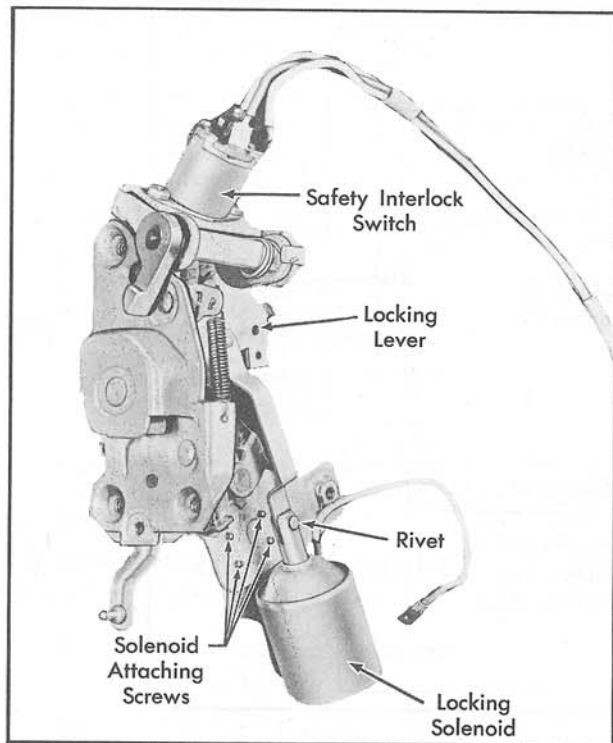

Fig. 17-29 Rear Door Lock Assembly
2. Carefully remove rivet, Fig. 17-29, securing lock link to solenoid plunger.
3. Remove solenoid attaching screws and remove solenoid from lock assembly, Fig. 17-29.
IMPORTANT: Before installing door lock assembly into door, check operation of locking solenoid. When solenoid is not energized, the lock should lock and unlock by manual operation of locking lever, Fig. 17-29. The lock solenoid, when energized, should actuate the locking lever to the locked position. The locking solenoid is adjustable "up or down" to provide proper locking action.